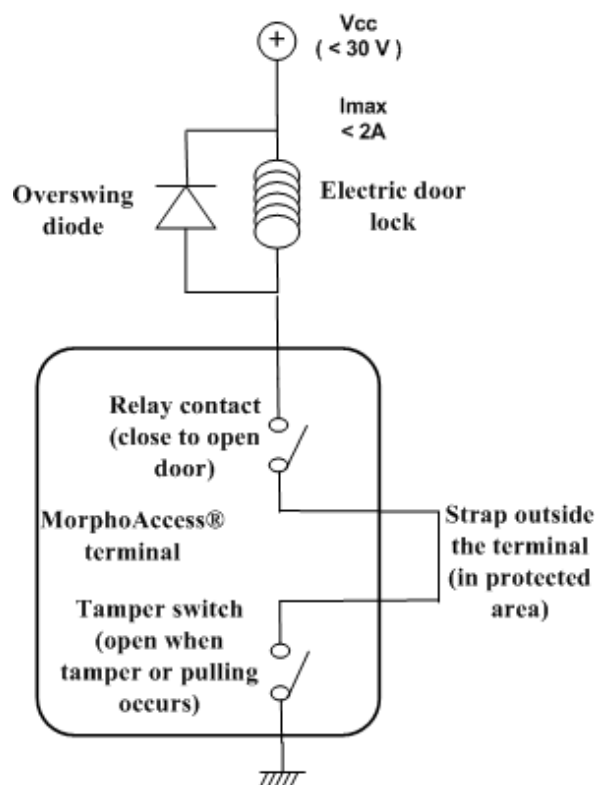

Figure 2 : Tamper switch contact inserted in electric latch command circuit
To disturb a possible intruder, it's better to make the connection between the terminal relay and the contact "tamper switch" by a simple shunt on the terminal connectors. It is recommended to make this connection outside of the terminal (at the end of cables), in the restricted area, as shown in Figure 2 below.
With an electric diagram such as the one in Figure 2 (sample), a simple short circuit of the internal relay contact, will not open the door in case of tamper or pulling of the terminal.
- The « tamper switch » contact must be included in the connection of the electric latch, to avoid the opening of the door when the terminal is not closed and in its normal position (please refer to Figure 2 : Tamper switch contact inserted »).